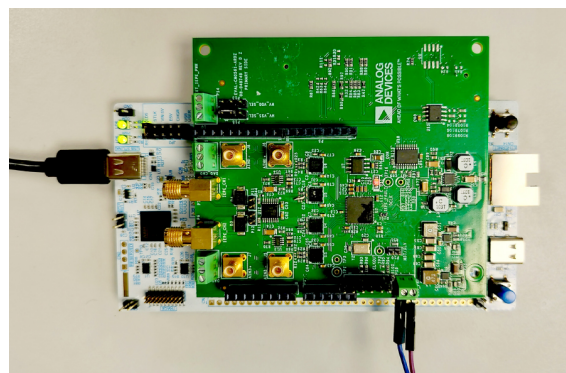

Figure 7. EVAL-CN0561-ARDZ Mounted on Nucelo-H563ZI Board
1. Mount the EVAL-CN0561-ARDZ evaluation board on the carrier board (NUCLEO-H563ZI) by plugging it into the arduino headers as shown in Figure 7.